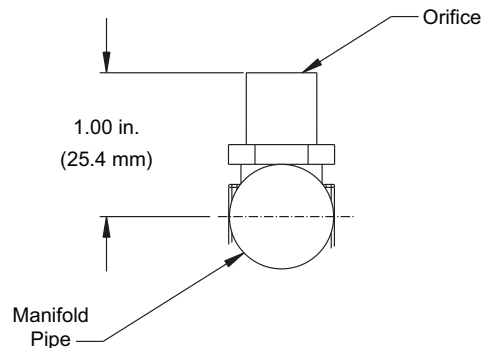

Fig. 52 — Orifice Projection
Refer to Fig. 52 for maximum projection dimension for orifice face to manifold tube.
5. If factory orifice has been removed, check that each orifice is tight at its threads into the manifold pipe and that orifice projection does not exceed maximum value. See Fig. 52.
Ensure each replacement orifice is tight as its threads into the manifold pipe and the orifice projection does not exceed maximum value. See Fig. 52.